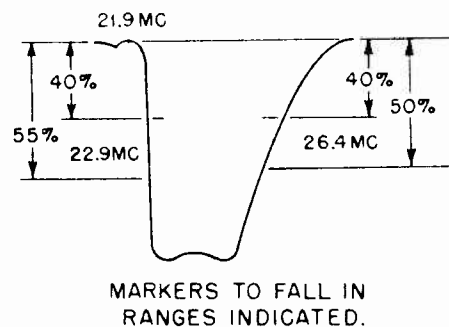

FIGURE 8. OVERALL RESPONSE CURVES FROM MIXER
10. Remove the 820 ohm damping resistor from the 2nd IF transformer T-3. Adjust the core in T-3 until the response curve of Figure 8 is obtained.
NOTE: The curve should be substantially that of the mixer, as in Figure 8. Any consistent tilting of the response curve indicates that the mixer and IF stages are not properly aligned.